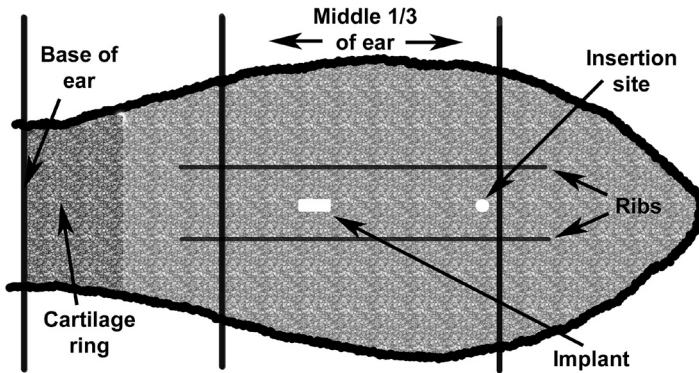

Figure 4. Proper implant site
5. Select the proper implant site on the back of the ear (figure 4).